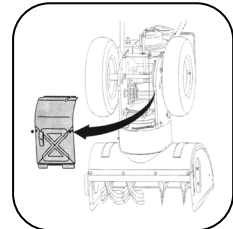

Figure 21
2. Carefully pivot the snow thrower up and forward so that it rests on the auger housing. Remove the frame cover from the underside of the snow thrower by removing four self-tapping screws which secure it. See Figure 21.